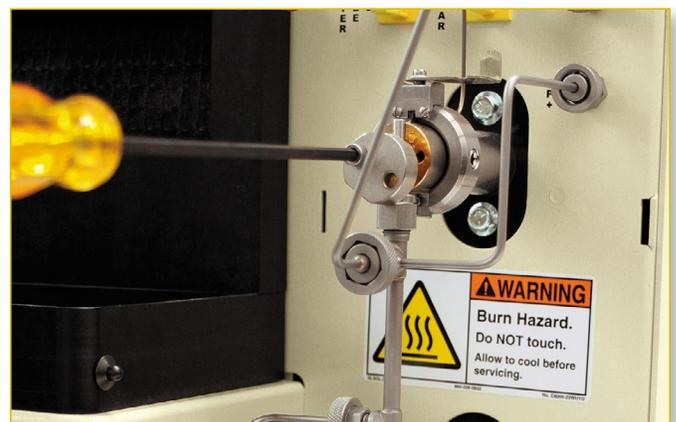

Figure 19 Removing Right Bus Bar Screw and Loosening Left Screw
11. Remove the right retaining screw of each bus bar cap using the hex wrench supplied. Loosen the left retaining screw of each bus bar cap using the hex tool, so that the cap is free to pivot on the screw [Figure 19]. To remove any fuel that may have seeped on to the bus bars, clean the bus bar contacts and bus bar caps, focusing on the portions that comes in contact with the heater tube.